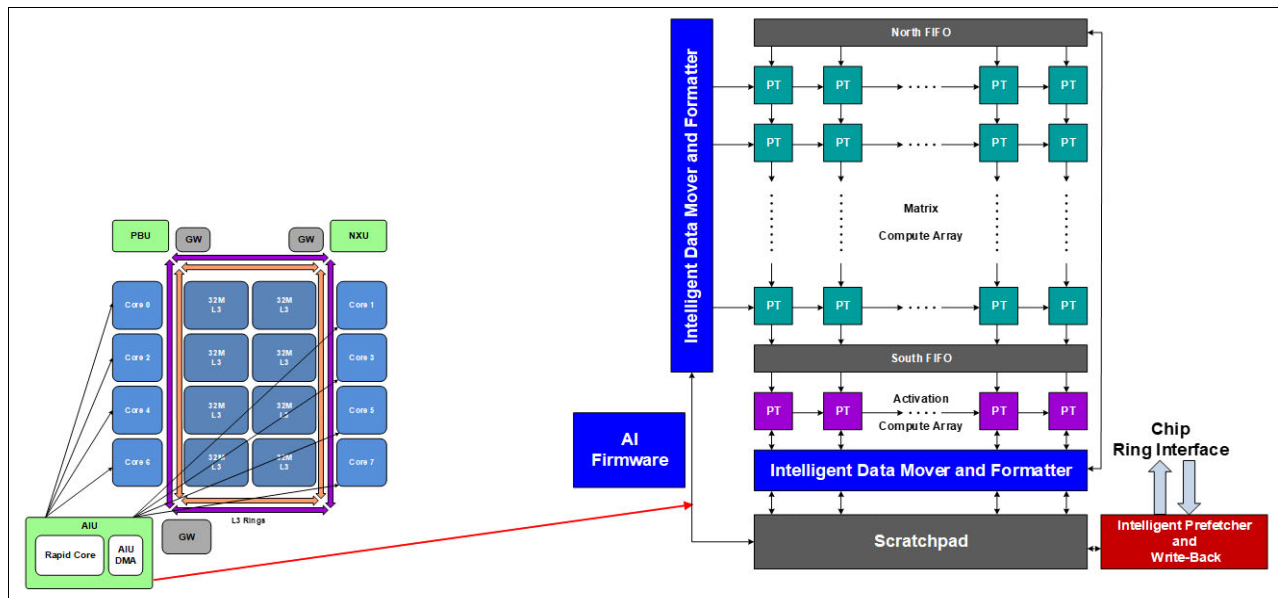

Figure A-2 IBM z16 AIU logical diagram
Figure A-2 shows the IBM z16 AI accelerator and its components: the data movers that surround the compute arrays are composed of the Processor Tiles (PT), Processing Elements (PE), and Special Function Processors (SFP).